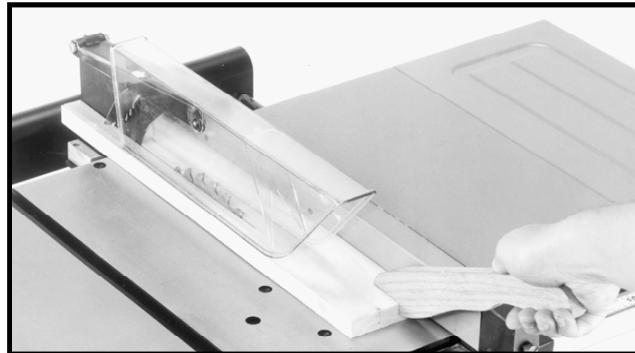

Fig. 47
2. If the ripped work is less than 4 inches wide, a push stick should always be used to complete the feed, as shown in Fig. 47. The push stick can easily be made from scrap material as explained in the section "**CONSTRUCTING A PUSH STICK.**"